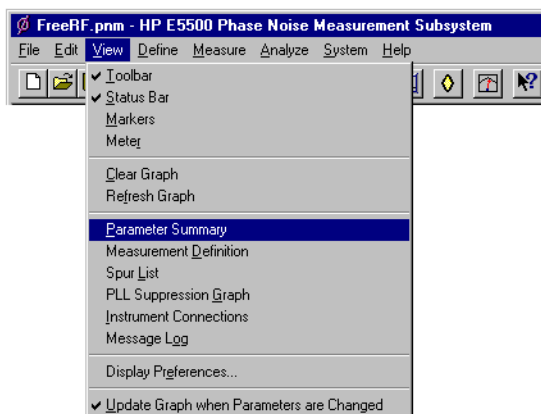

Figure 5-39 Navigate to Parameter Summary
- 1 On the **View** menu, click **Parameter Summary**. See Figure 5-39.